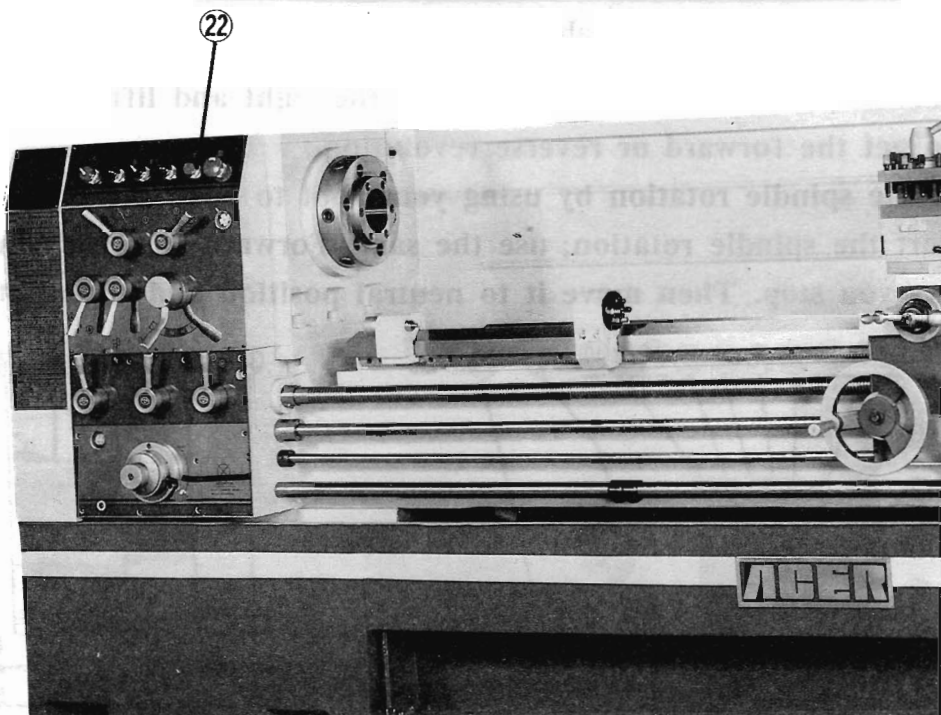

Figure 5
There is a push button ② on top of headstock(see Fig. 5). Push it slightly. The spindle will run positively and stop automatically. This is for changing speed easier and adjusting the center for raw material when a 4-jaw chuck is used.